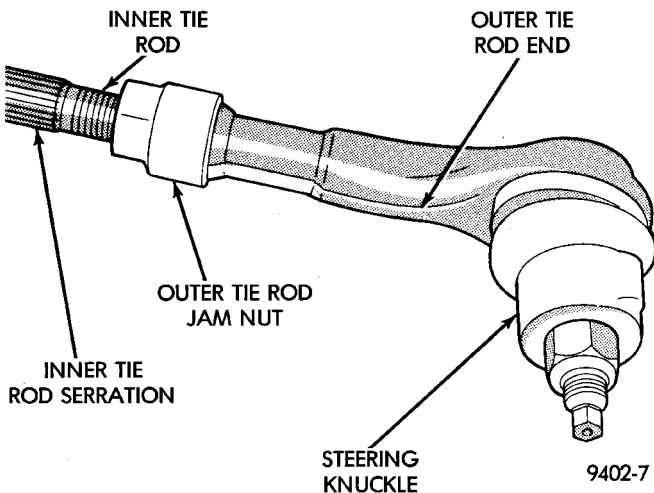

Fig. 18 Outer Tie Rod End Jam Nut
(18) Adjust the front Toe setting on the vehicle. Refer to the Toe Setting Procedure in Front Suspension Service Procedures in this group of the service manual. Refer to the Specifications Section at the end of this group for the desired front Toe specification.
(19) Tighten tie rod jam nut (Fig. 18) to 61 N-m (45 ft.lbs.) torque.